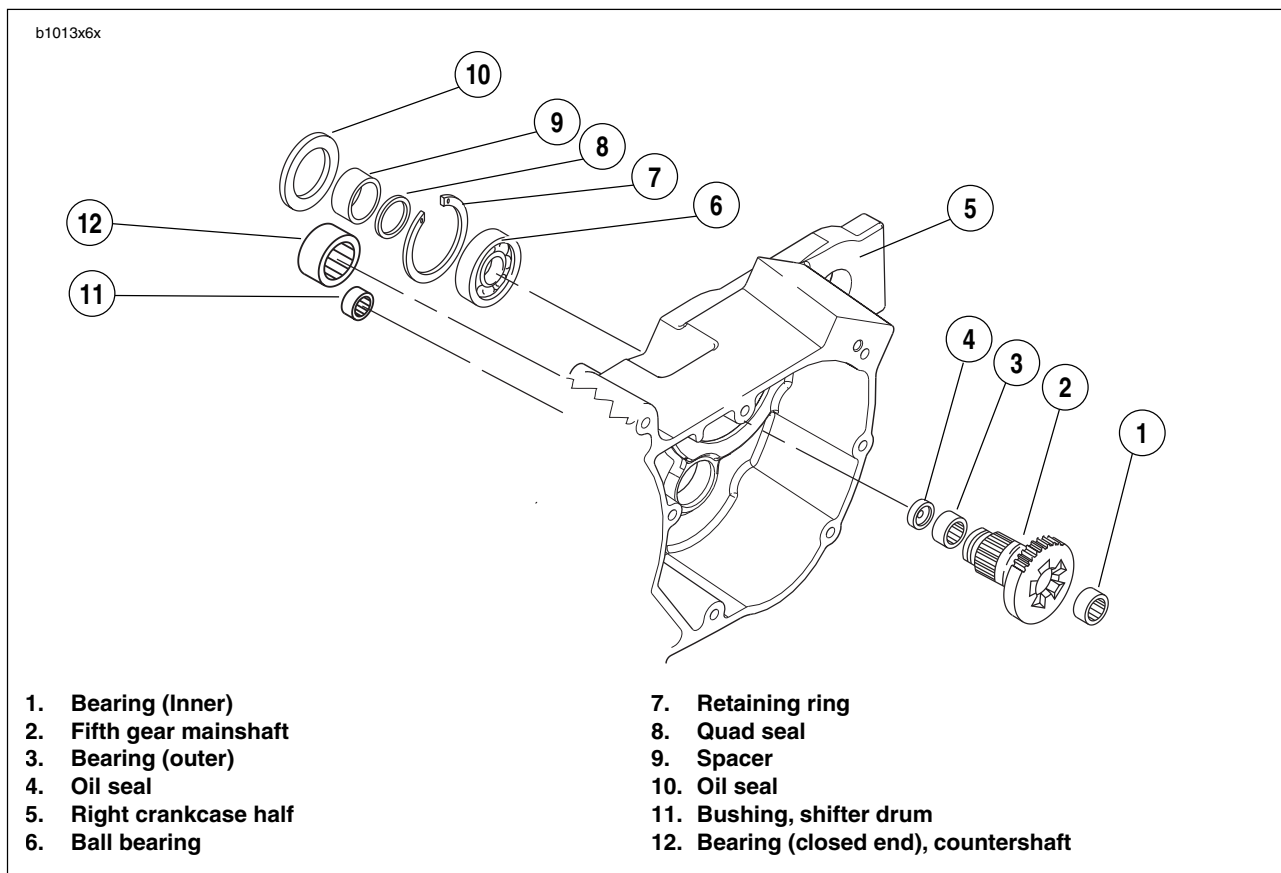

Figure 6-77. Transmission Assembly Right Crankcase Half
5. See Figure 6-77. Place **new** quad ring over threaded end of fifth gear, and position next to the gear taper. Install spacer over threaded end of fifth gear with chamfered end toward quad ring. Slide spacer up against bearing.
See Figure 6-77. Refer to *Transmission assembly right crankcase half*, for location of items discussed on this page.
2. See Figure 6-77. Remove main drive 5th gear. Use MAIN DRIVE GEAR REMOVER AND INSTALLER (Part No. HD-35316A). See 6.11 MAIN DRIVE GEAR.
2. See Figure 6-77. From the outside of the case place the needle bearing open end first next to the bearing bore. Hold the driver squarely against the closed end of the bearing and tap the bearing into place. The bearing is properly positioned when it is driven inward flush or 0.030 in. (0.762 mm) below the outside surface of the case.
4. See Figure 6-77. The shifter drum bushing (11) is a press fit in the right crankcase half. Inspect the bushing against the corresponding end of the shifter drum for proper fit and wear.